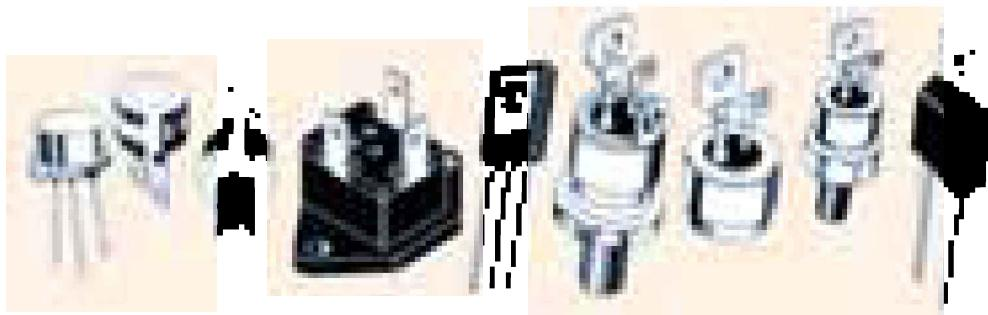

**Fig. 20.1**
**Constructional details.** When a *pn* junction is added to a junction transistor, the resulting three *pn* junction device is called a silicon controlled rectifier. Fig. 20.1 (i) shows its construction. It is clear that it is essentially an ordinary rectifier (*pn*) and a junction transistor (*npn*) combined in one unit to form *pnpn* device. Three terminals are taken; one from the outer *p*-type material called *anode A*, second from the outer *n*-type material called *cathode K* and the third from the base of transistor section and is called *gate G*. In the normal operating conditions of *SCR*, anode is held at high positive potential w.r.t. cathode and gate at small positive potential w.r.t. cathode. Fig. 20.1 (ii) shows the symbol of *SCR*.